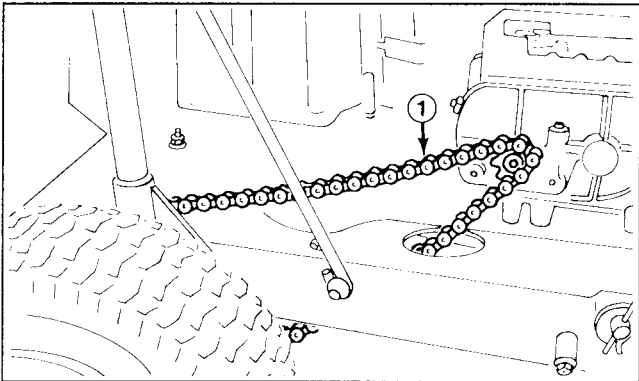

**Figure 22**
1. Remove two screws securing chain cover to rider chassis and lift off chain cover (Fig. 22).